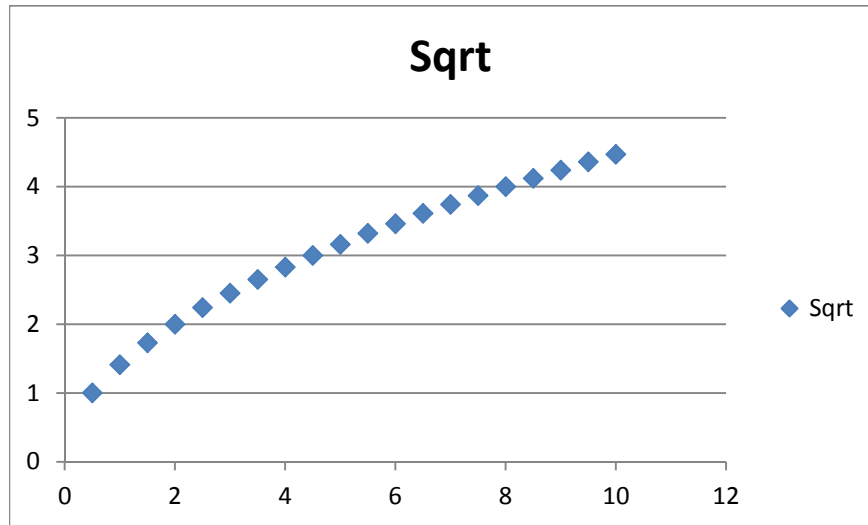

Figure 2A: Excel plot of `timer.csv`
Step 6: Save both `timer1_0.nxc` and `fileSavingFunctionsForTimer1_0.h` files. Compile and execute. Once the program runs, hit the orange button to start the program. After 10 seconds, the program should play a tone and exit. Open NXT Explorer to retrieve your data file (called `timer.csv`) and plot in Excel which should resemble **Figure 2A**.